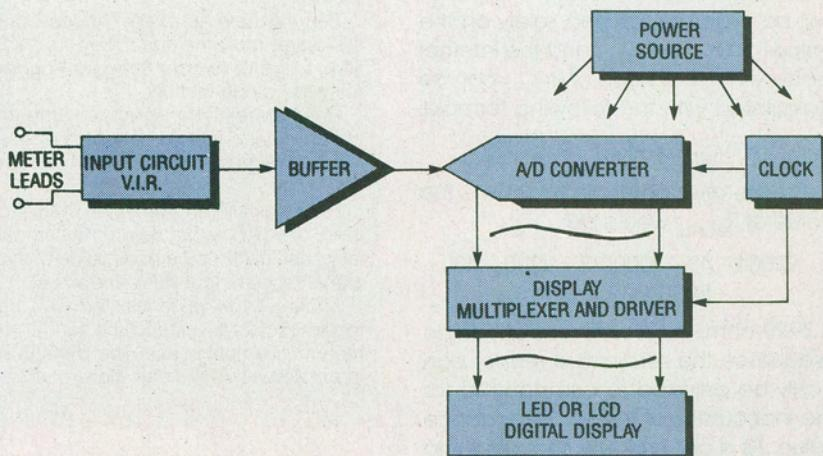

Fig. 6. This is a block diagram of a basic digital meter. The input circuit is programmed by the switches which are not shown here.
**Digital-Meter Concepts.** Unlike the analog meters we have discussed, digital meters make extensive use of VLSI (Very Large Scale Integration) devices to accomplish the functions required to drive a multi-segment display. Although modern semiconductor technology has made single IC chips that perform many digital-meter functions possible, all DMM's (digital multimeters) contain the sections shown in Fig. 6.